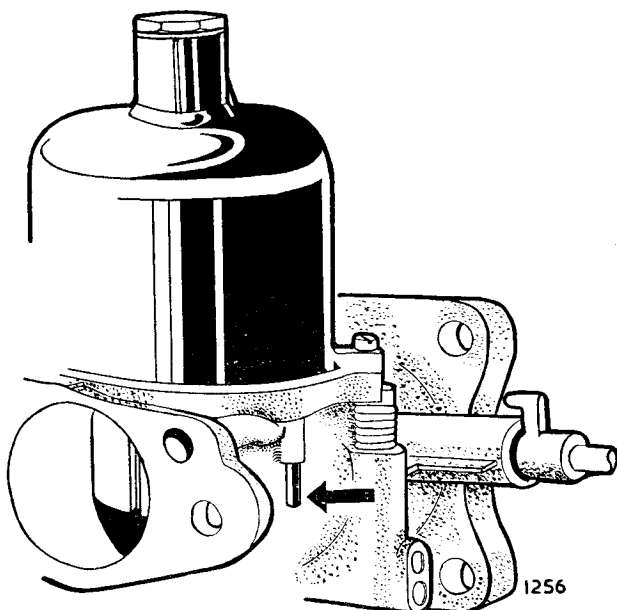

Fig. 13. The carburettor piston lifting pin; the first part of the movement is spring loaded free travel.
- Next check the mixture strength by lifting the piston (by means of the lifting pin—see Fig. 13) of the front carburettor by approximately $\frac{1}{32}$ " (.8 mm.) when, if